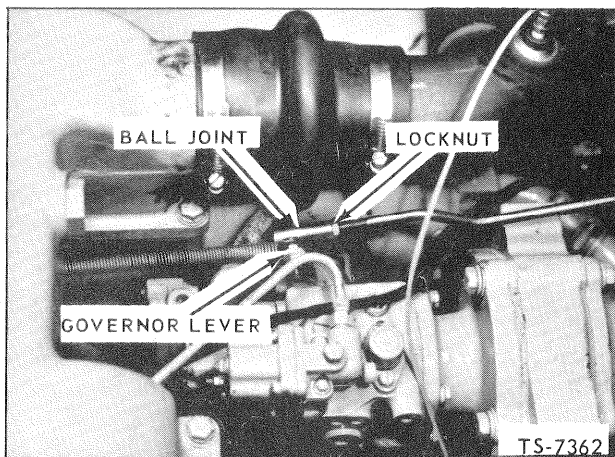

Fig. 10 Accelerator Linkage at the Governor Housing
3. Rotate the governor throttle control lever to the extreme (full throttle) position and adjust the ball joint at the front of the accelerator rod, to obtain a slip fit in the governor throttle lever just before the accelerator bottoms. If a slip fit cannot be obtained, adjust the clevis at the other end of the accelerator rod. See Fig. 10.